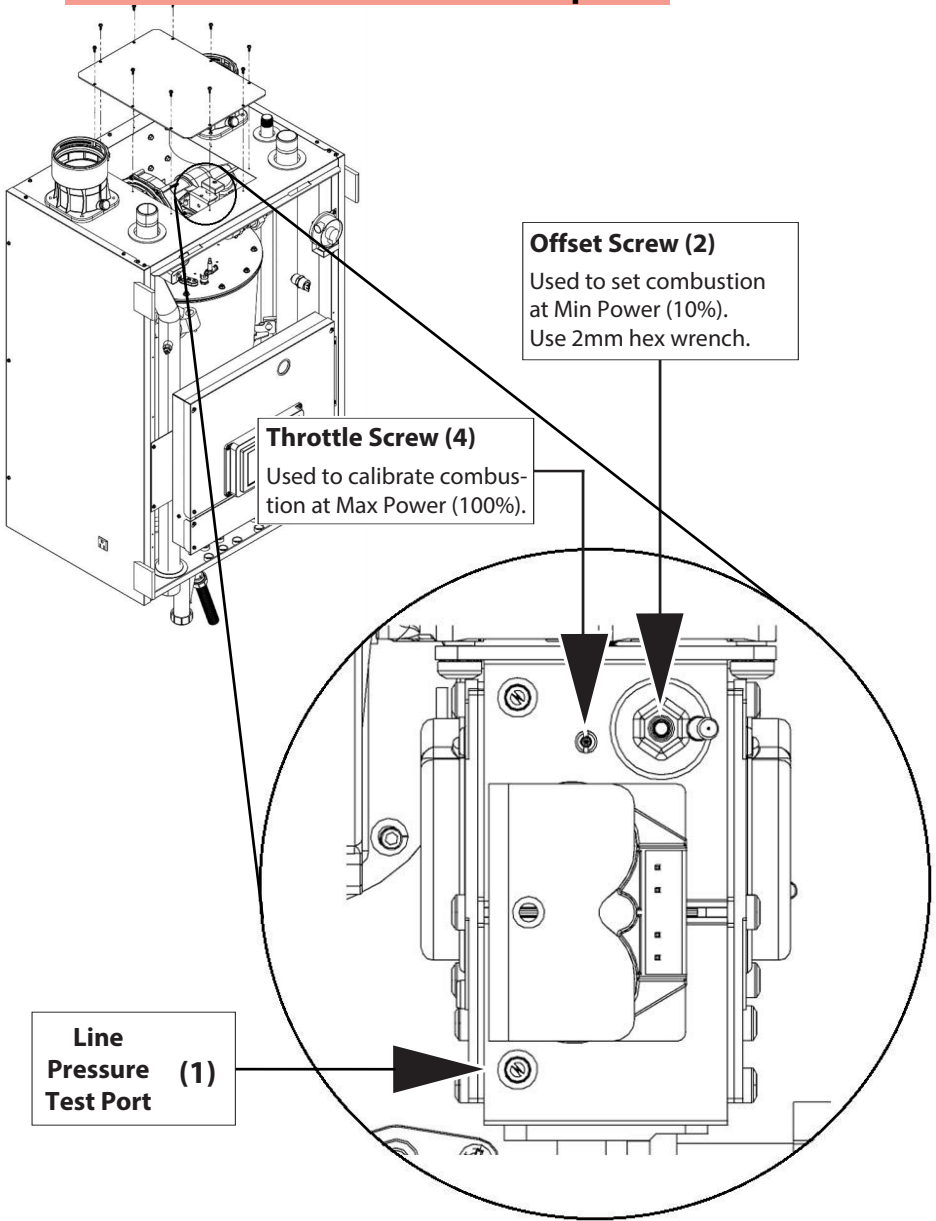

Figure 3 – Gas valve adjustment for TFTN285-399
The boiler gas valve is equipped with a Line Pressure Test Port; see screw 1, Figure 3.
- Loosen screw **1 (Line Pressure Test Port)**. This port is directly connected to the gas line feeding the boiler. See screw 1, Figure 3.